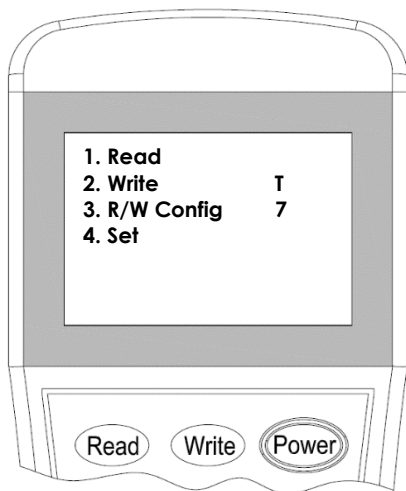

Figure 13
2. Switch-on the programmer, then press button “**3**” to enter to **Configuration mode** (Figure 13).